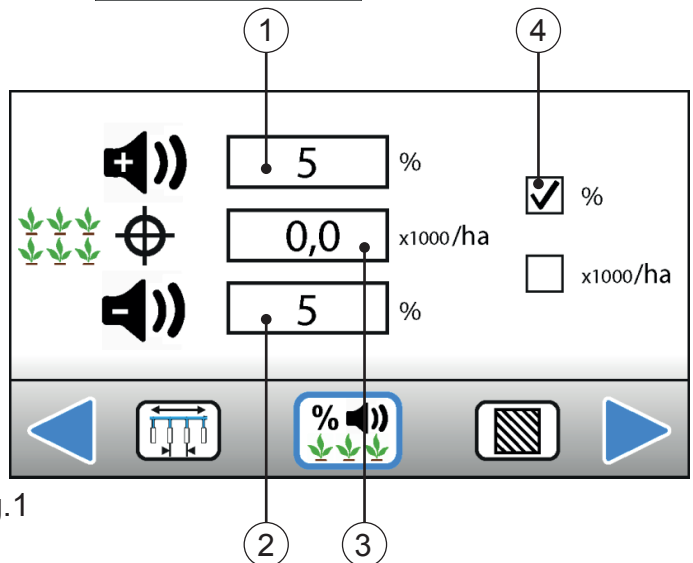

Fig.1
3.4 - ALARM THRESHOLDS ADJUSTMENT (Fig. 1 & 2)